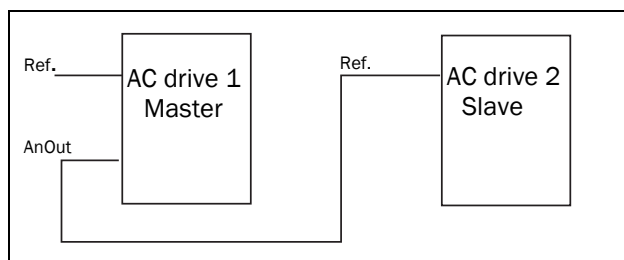

Fig. 129
- a reference signal for the next AC drive in a Master/Slave configuration (see fig. 129).